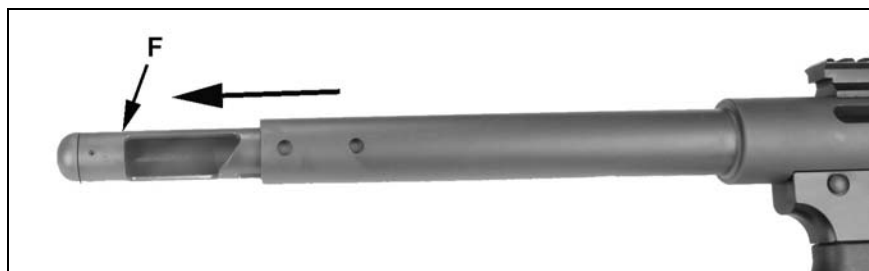

Figure 29
6. Remove bolt body (F) from the rear of the receiver. See figure 29.